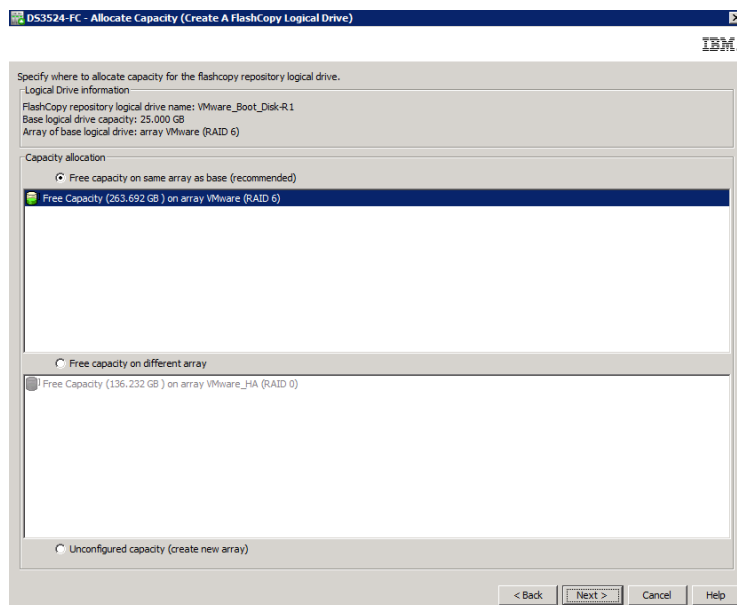

Figure 2-15 Create FlashCopy Logical Drive wizard: Allocate capacity
- b. The Allocate Capacity window opens, as shown in Figure 2-15.